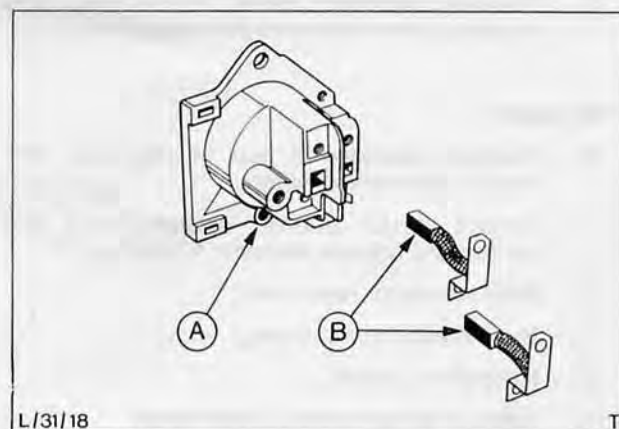

Fig. 60. A – Brush box
6. Fit brush assemblies, 'B' in Fig. 60, into brush box 'A' and secure in position with retaining screws.